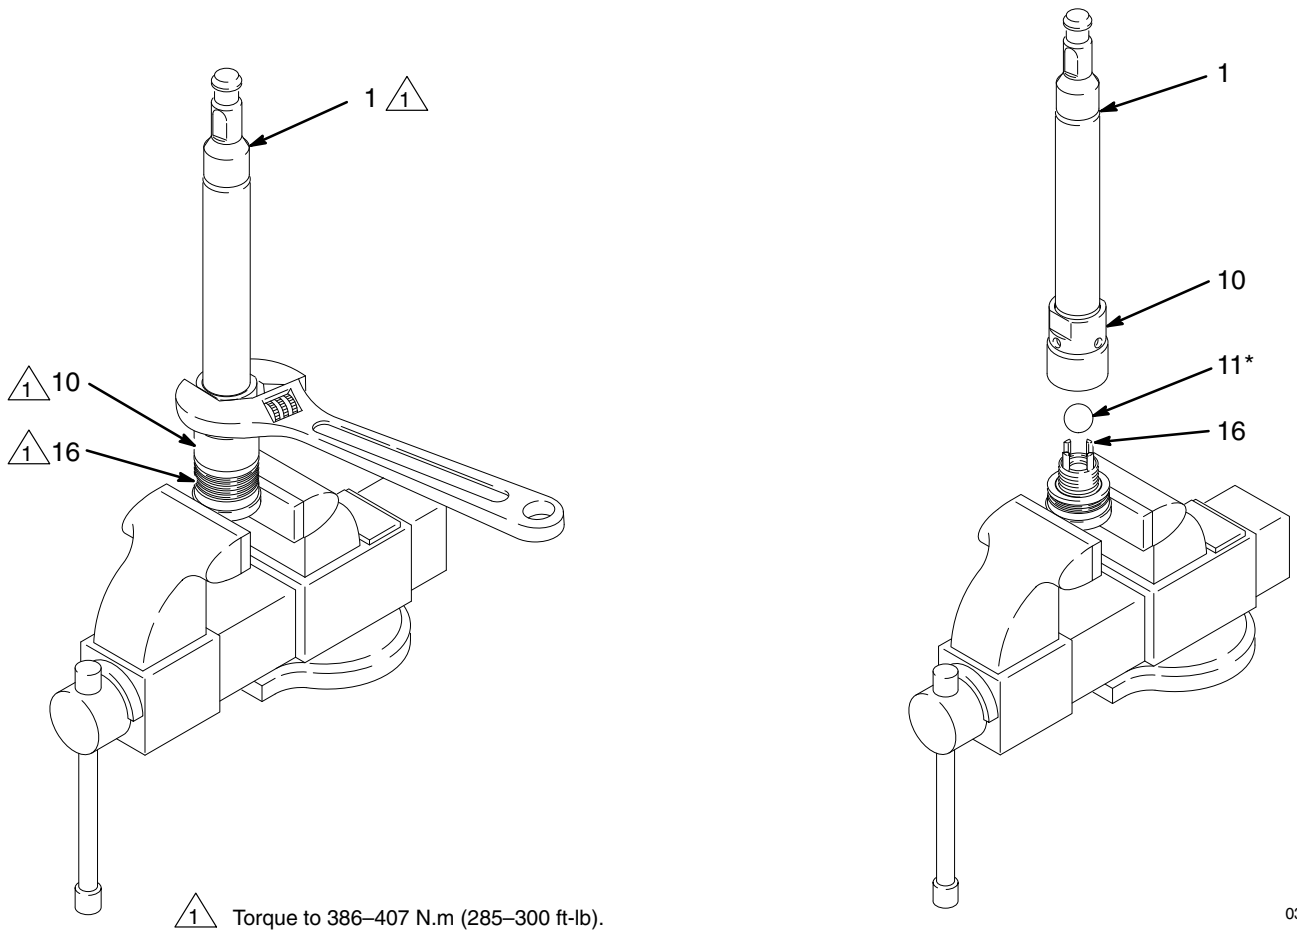

Fig. 6
- a. Unscrew the valve housing (18) from the cylinder. Using a rubber mallet, drive the displacement rod (1) and piston assembly out of the outlet housing (7) and cylinder (9) until the piston comes free. Pull the rod and piston from the cylinder, being careful not to scratch the parts.
- b. Unscrew the cylinder (9) from the outlet housing (7), using a pipe wrench. Remove the two seals (8) from the cylinder. Shine a light into the cylinder (9) to inspect the inner surface for scoring or wear. Now go to step 4.
- a. Unscrew the cylinder (9) and valve housing (18) from the outlet housing (7). Gently pull the cylinder and valve housing straight out of the outlet housing; the displacement rod (1) and piston assembly will come out with these parts.
- b. Place the valve housing (18) in the vise and unscrew the cylinder (9) from the housing, using a pipe wrench. The displacement rod (1) and piston assembly will remain in the cylinder.
- c. Using a rubber mallet, drive the displacement rod (1) and piston assembly out of the cylinder (9) until the piston comes free. Pull the rod and piston from the cylinder, being careful not to scratch the parts.
- d. Remove the two seals (8) from the cylinder. Shine a light into the cylinder (9) to inspect the inner surface for scoring or wear. Now go to step 4.
4. Place the flats of the piston seat housing (16) in a vise, as shown in Fig. 6.
5. Using an adjustable wrench, unscrew the piston ball housing (10) from the piston seat housing. Be careful to catch the piston ball (11) as you separate the piston seat housing and ball housing, so that it does not fall and suffer damage.
6. Examine the displacement rod (1) for scratches or other damage. **Only if the rod needs replacement**, unscrew it from the piston ball housing (10), using an adjustable wrench on the flats of the rod.
3. Place the flats of the piston seat housing (16) in a vise. Place the ball (11*) on the piston seat (E). Screw the piston ball housing (10) onto the piston seat housing hand tight, then torque to 386–407 N.m (285–300 ft-lb). See Fig. 6.